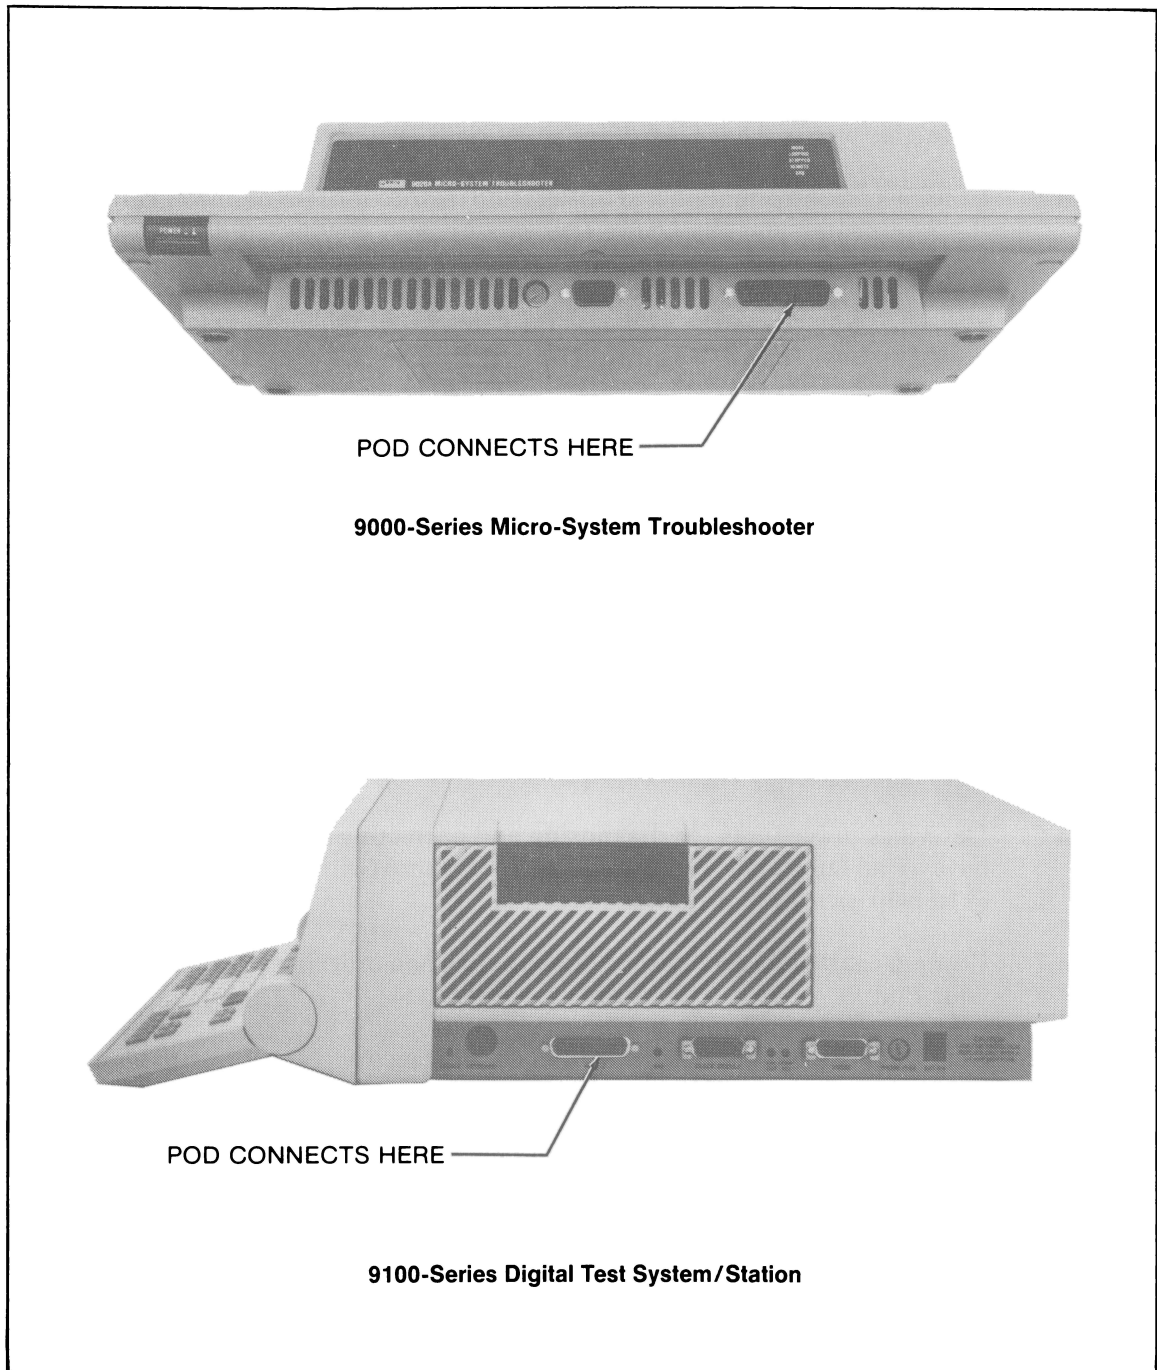

Figure 1-3. Connection of the Interface Pod to the Mainframe
2. Connect the Pod's round shielded cable to the Mainframe at the location shown in Figure 1-3. Secure the connector using the sliding collar.